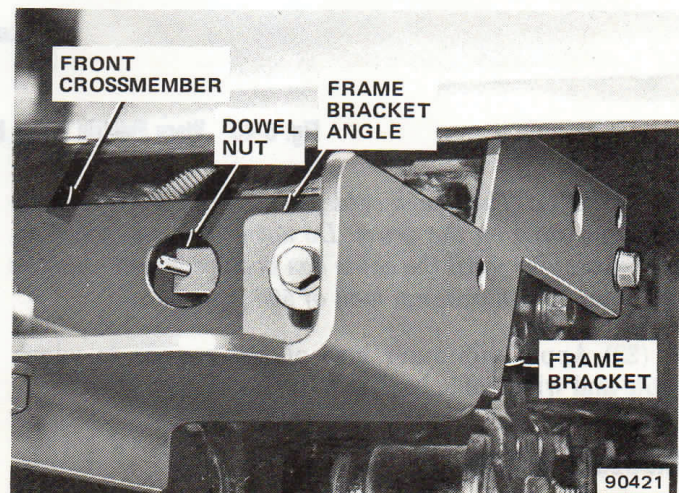

Fig. 5-47 Dowel Nut Installation—1976-78 Models
**NOTE:** The dowel nuts are used to attach the frame bracket angle to the front crossmember (fig. 5-47). Insert the dowel nut through the crossmember hole, hold the nut in position using the dowel pin and thread the bracket attaching bolt into the nut. The pin will prevent nut rotation when tightening the bolt.